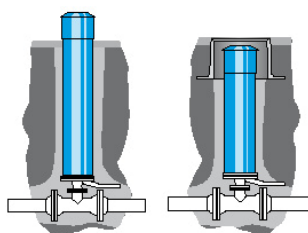

Figure 1
To prevent entry of rainwater, the standpipe (5) from the pipeline to the bonnet must be surrounded by a drainage water absorber of rolled gravel (Figure. 1 and 2). The installation into the ground water requires additional measures (e.g. closing the draining bore, regular inspections at short intervals)